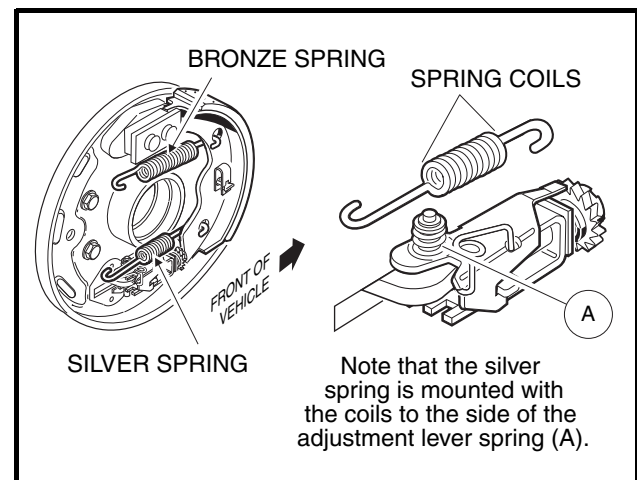

Figure 6-14 Spring Orientation
3. Attach the springs onto the trailing shoe already installed. Then hold the leading shoe next to the trailing shoe, correctly oriented, and attach the springs to it (**Figure 6-14, Page 6-6**).